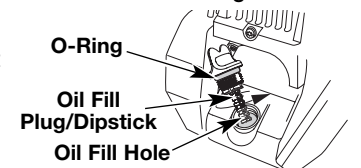

Fig. 9
3. Remove the oil plug / dipstick from the crankcase (Fig. 9).
4. Pour the entire bottle of oil into the oil fill hole (Fig. 9).